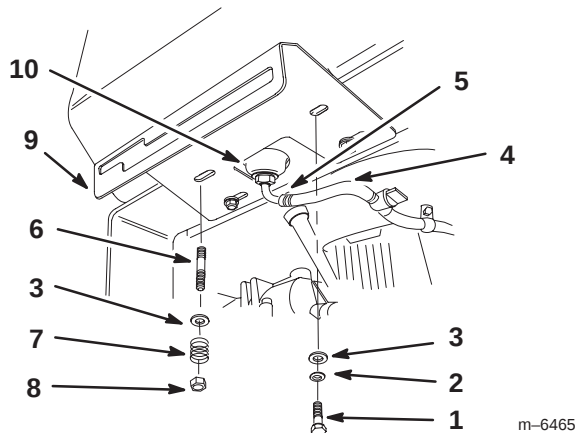

Figure 5
4. Push the fuel line onto the fuel tank connection and secure it with the hose clamp that is on the fuel line (Fig. 5).
5. Secure the right side of shift lever plate and fuel tank to the rear frame (Fig. 5) with 2 bolts (5/16 x 7/8 inch), lock washers (5/16 inch) and washers (5/16 inch) (Fig. 5).
6. Secure the left side shift lever plate and fuel tank to the rear frame (Fig. 5) with washers (5/16 inch), springs and locknuts (5/16 inch) (Fig. 5).